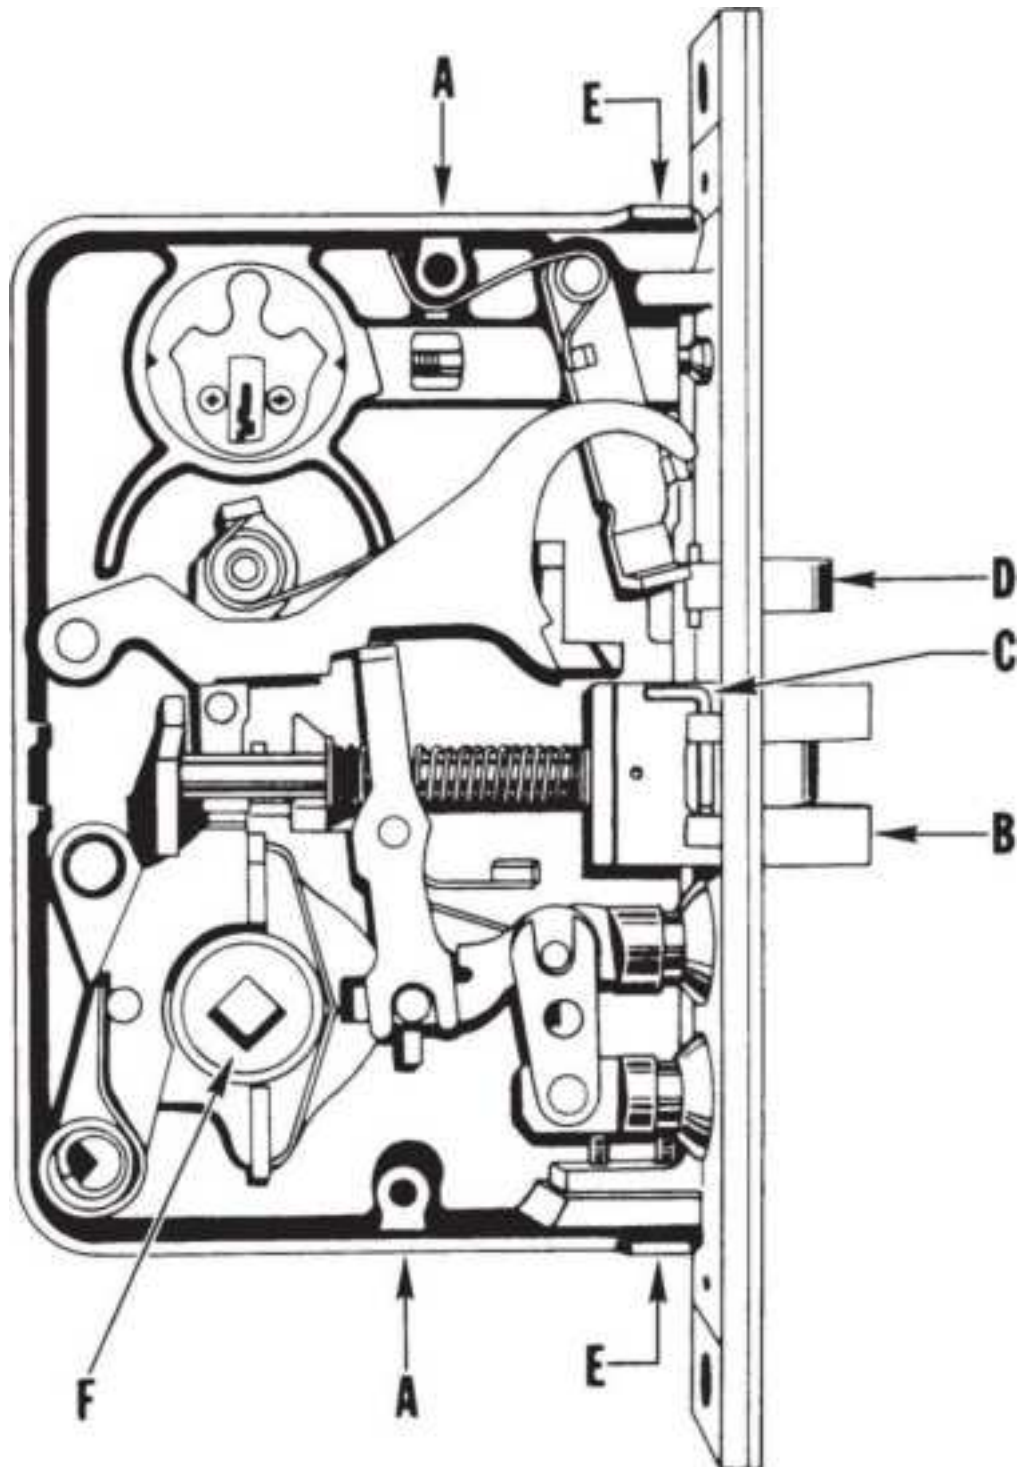

**Figure 13.37** Reversing the hand.
1. Refer to Figure 13.37 . Unfasten the two cap screws (A) and remove the cap.